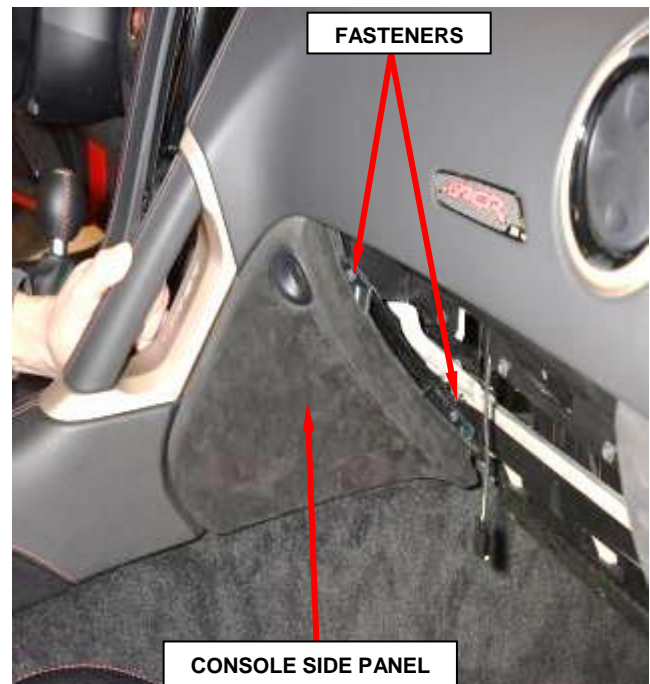

Figure 4 – Right Console Side Panel
3. Remove the two fasteners from the console side panel (Figure 4).
4. Use C-4755 or equivalent, to release the console side panel clips from the instrument panel and console (Figure 4).
6. Remove the right console side panel from the vehicle (Figure 4).